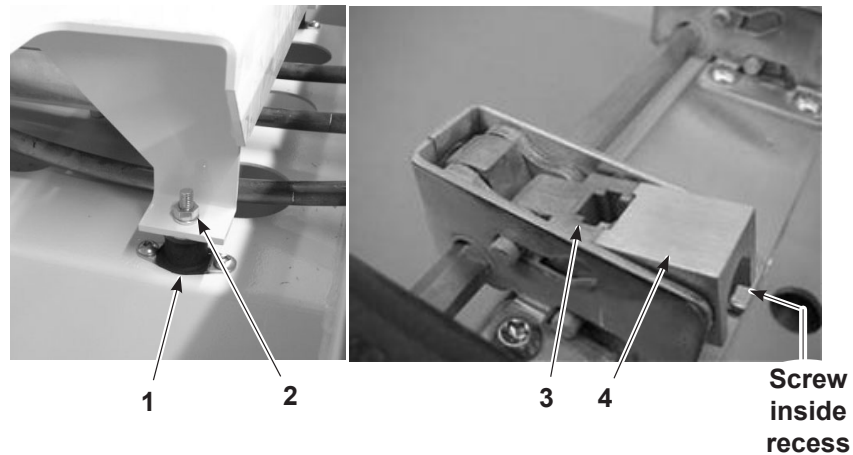

Figure 8-2 Pawl Replacement
3. See Figure 8-2. Grasp the cylinder clevis and pull the cylinder shaft out to the fully extended position to extend the latches and provide access to the latch set screws (3).